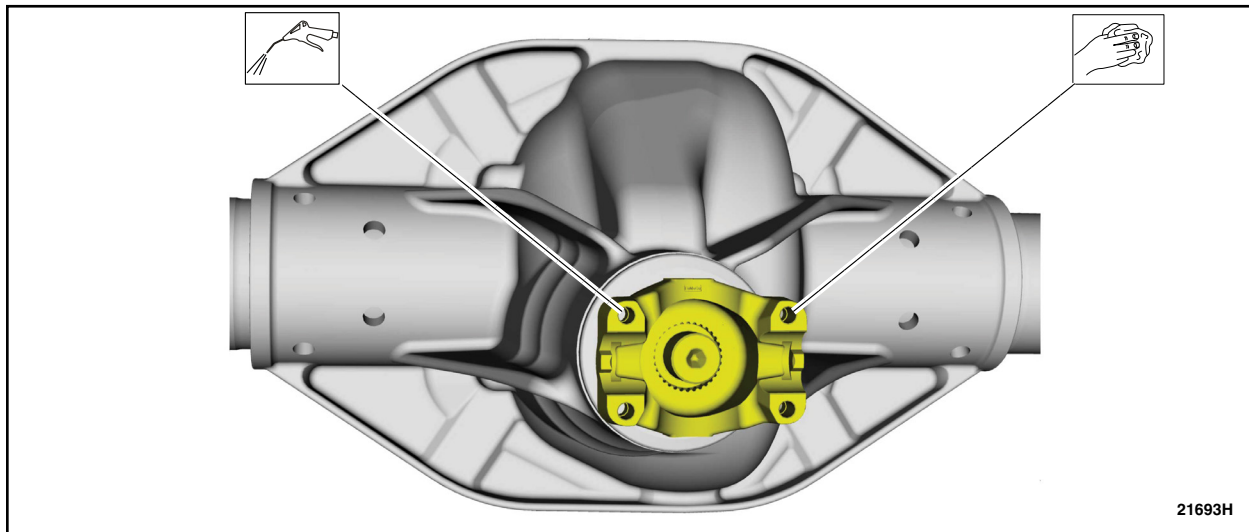

FIGURE 11
16. Using an air blow gun, remove any debris from threaded holes in axle flange. See Figure 11.